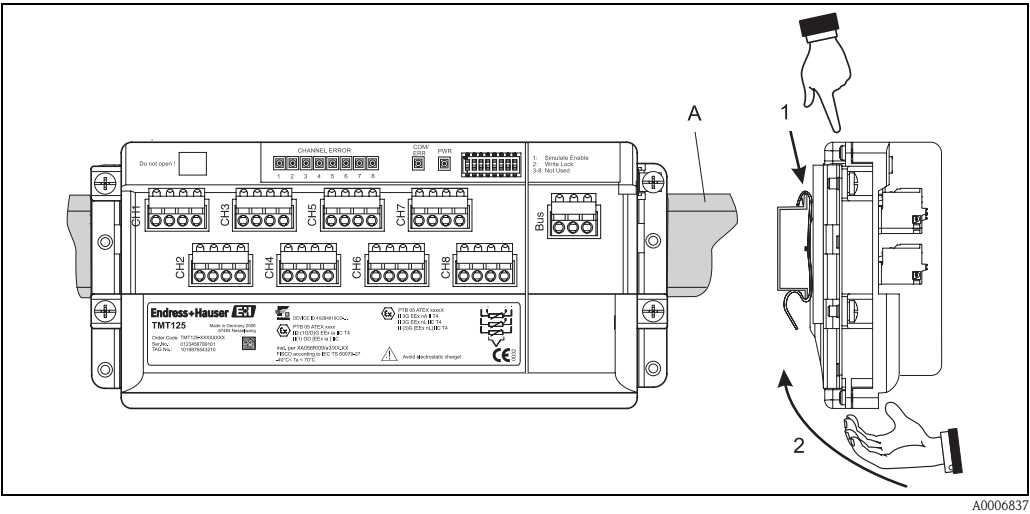

Fig. 4: DIN rail transmitter mounting
Now snap the device onto the DIN rail by firstly hanging the device on the DIN rail and then pressing it down gently until it engages (→ fig. 4, item 1 and 2).